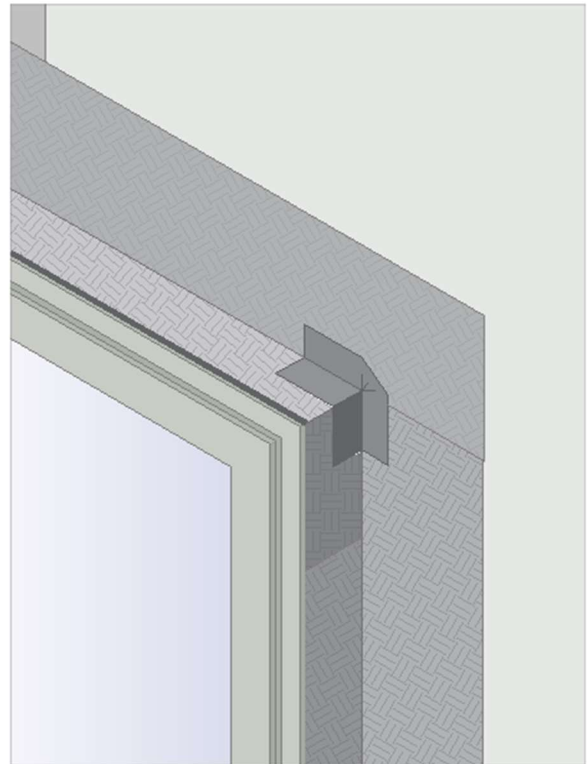

Figure 15
- ME480 & ME481 Butyl Facade Sealing Tapes can be sealed using small patches of the tape as shown in Figure 15.